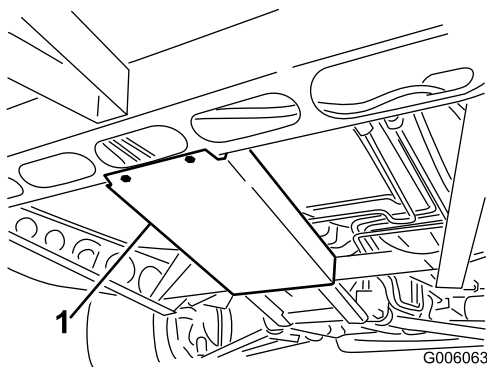

Figure 1
3. Remove the (4) screws securing the cover to the underside of the front frame (Figure 1).